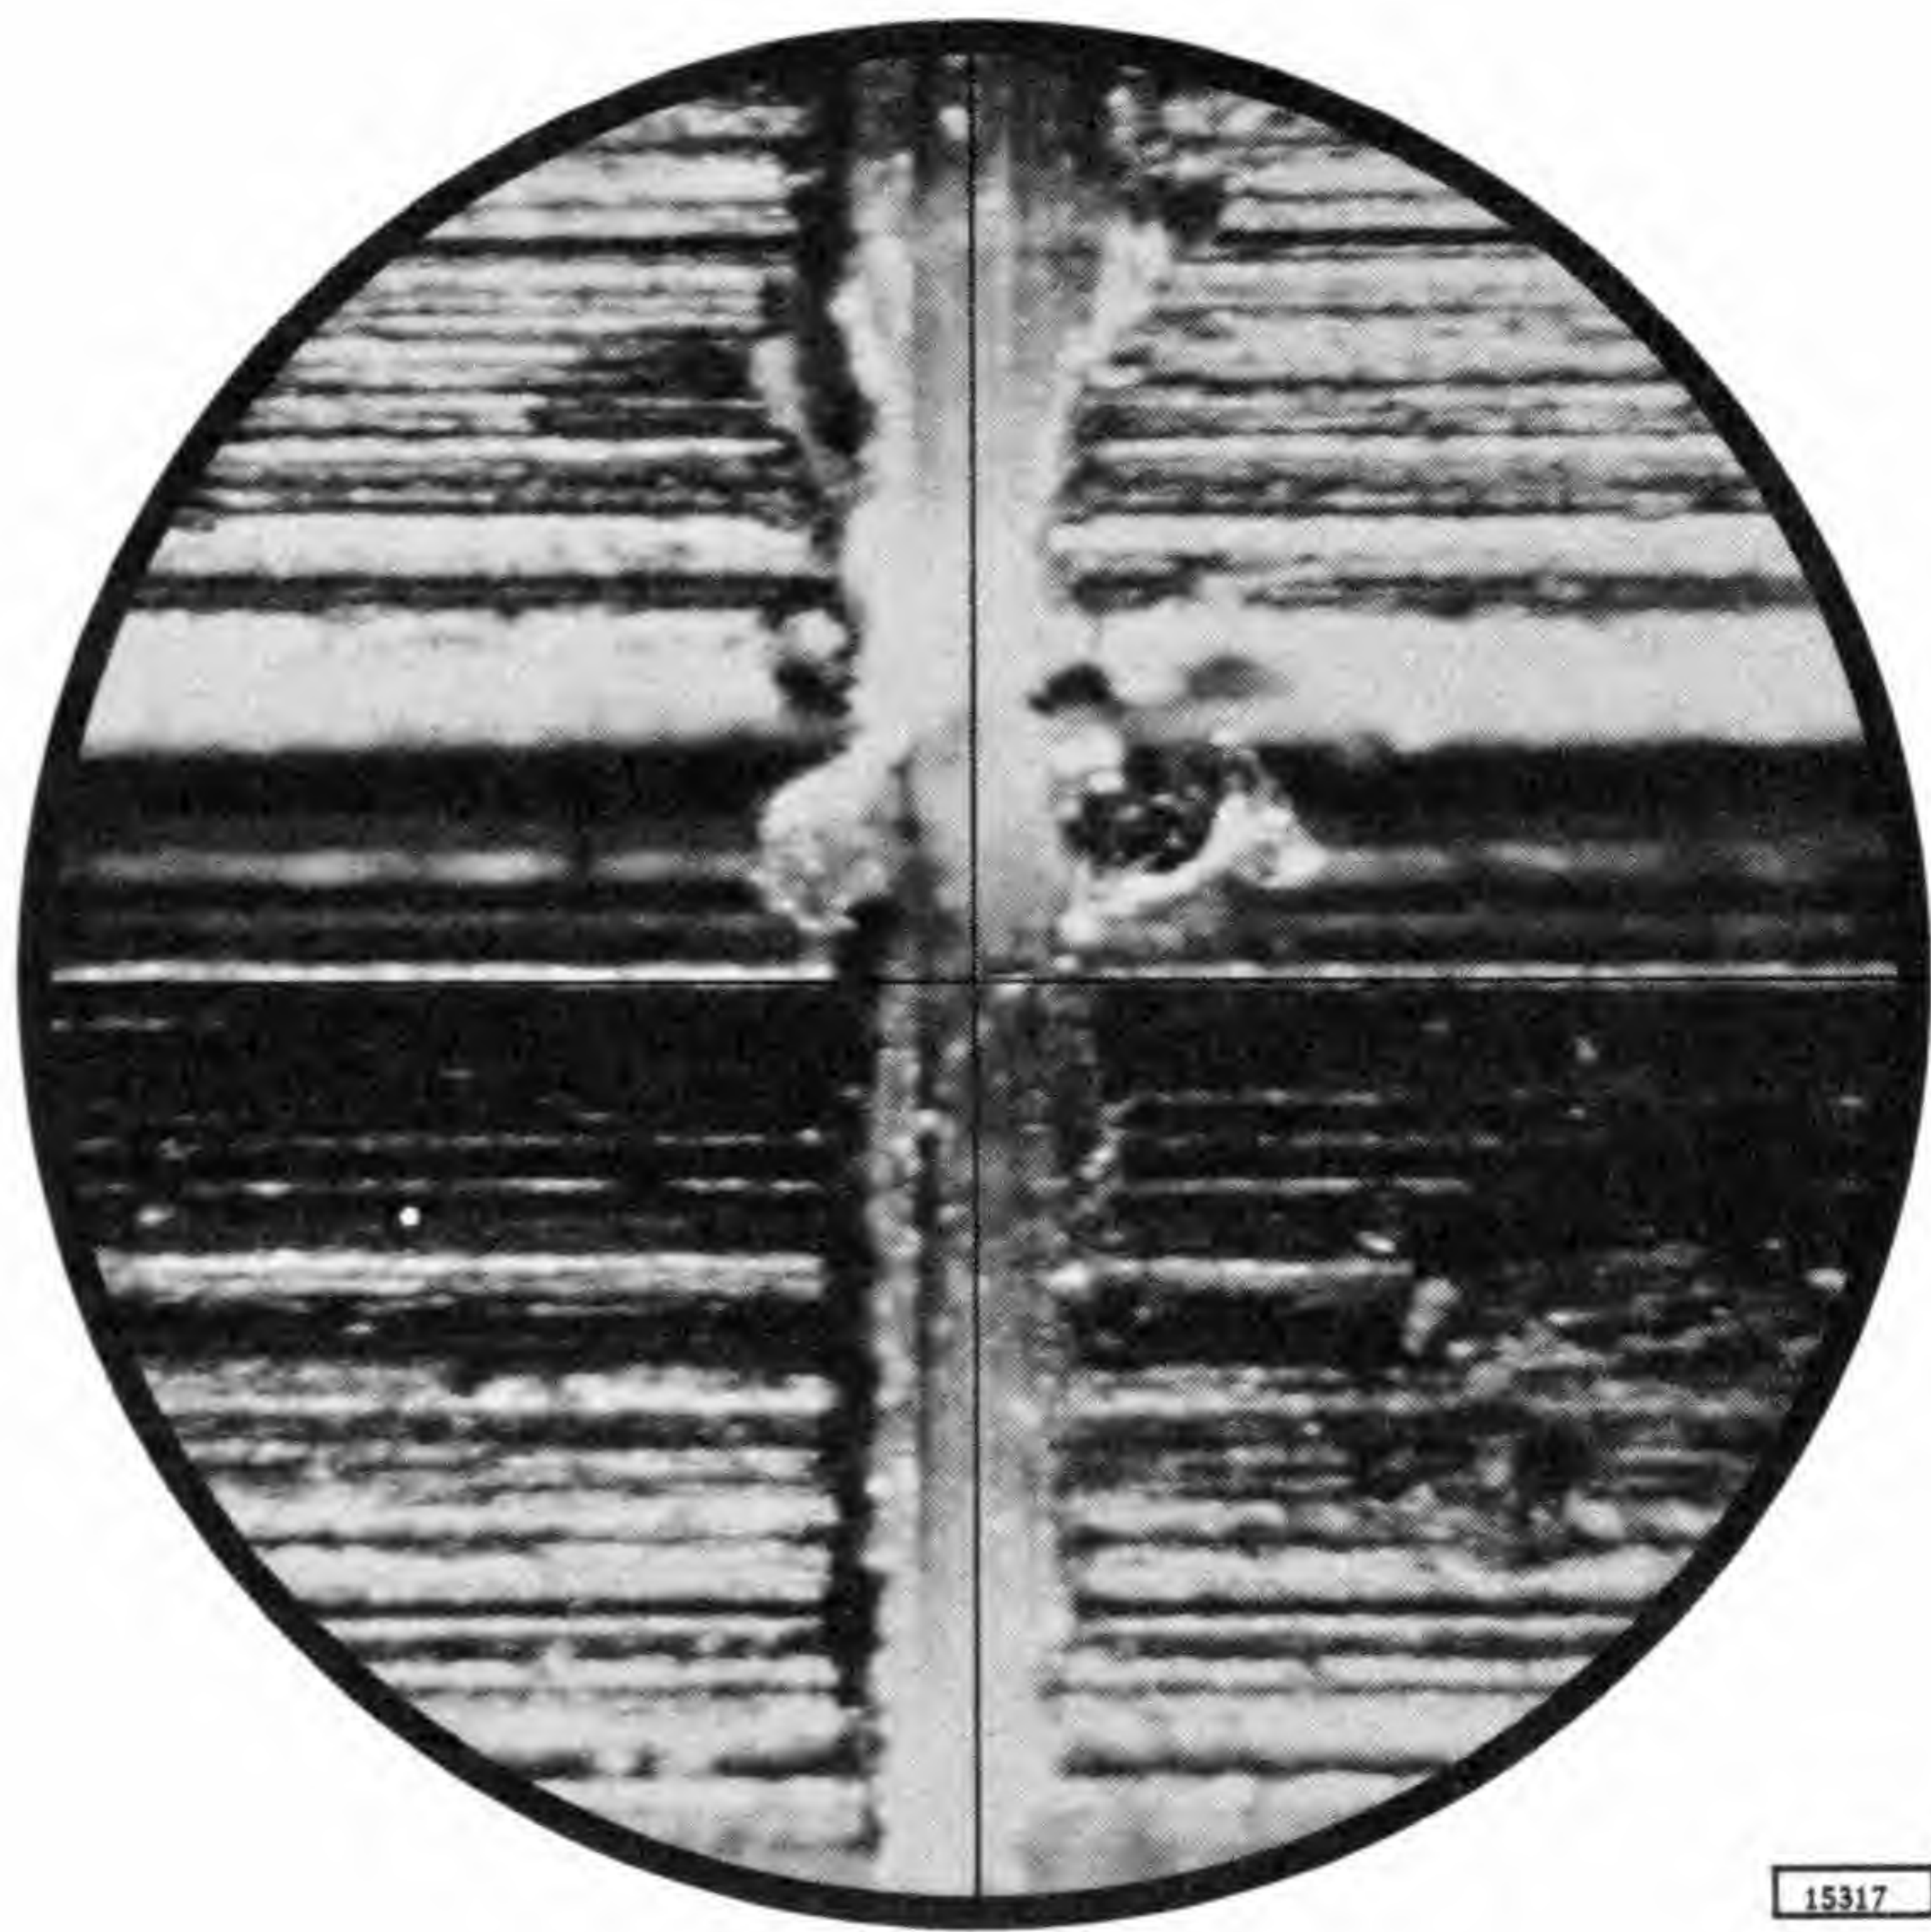

Figure 4-13. Magnified Scribed Line on Disk
3. Install microscope disk aligning fixture in scribe mounting. Align the scribe mark with the center of the crosshair by positioning the disk. Then, the microscope should be rotated to appear as shown in Figure 4-13.